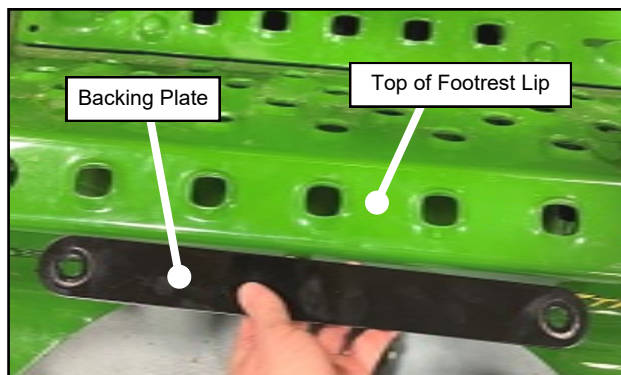

Fig. 1.15a (Install Ballast Box, Backing Plate)
1.15 Remove ballast box from shipping pallet. Next, install ballast box on the front edge, of the vehicle. Installing top bolts first into the vehicles floorboard (do not fully tighten). Place backing plate between the underside of the floorboard and locking nuts. Next, install front lower carriage bolts from inside the vehicle floorboard outwards to the front of the vehicle. To tighten down the lock nuts, you will need a 3/4" ratchet wrench to access the nuts found on the inside of the ballast box. Fully tighten the front bolts and then the top bolts. See Figures 1.15a and 1.15b.